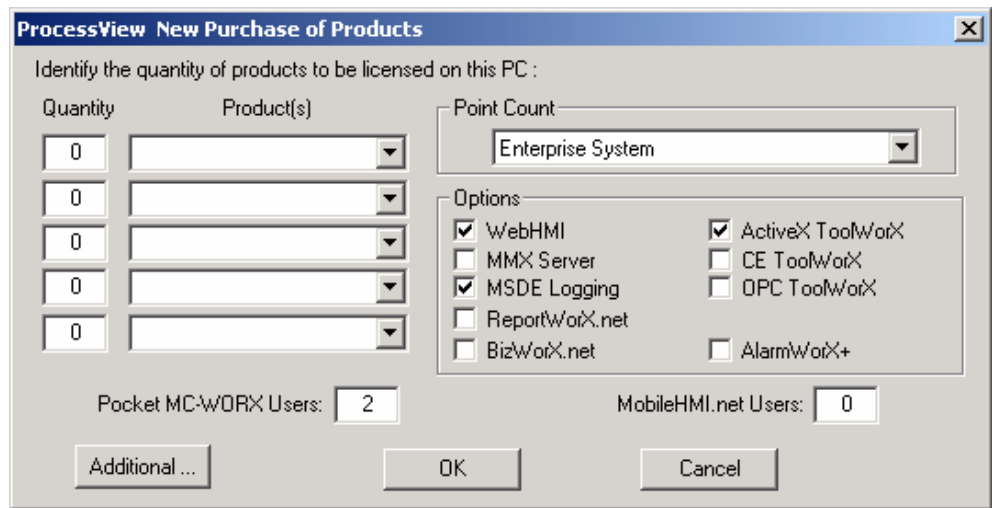

Figure 3.18. New Purchase of Products
23. In the **New Purchase of Products** dialog box, shown in **Figure 3.18**, will be displayed next if this is a new purchase or if the Product IDs are not available. This dialog box does not require that the Registration IDs have been specified because the ID uniquely identifies the product(s) to be installed. Select the quantity and type of products to be installed and licensed on this PC and click **OK**.